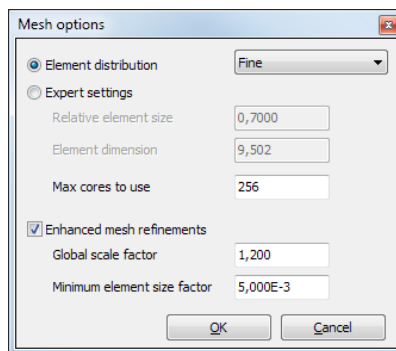

Figure 7.3 Modification of the *Global coarseness*
- Select the *Fine* option from the *Element distribution* drop-down (Figure 7.3).